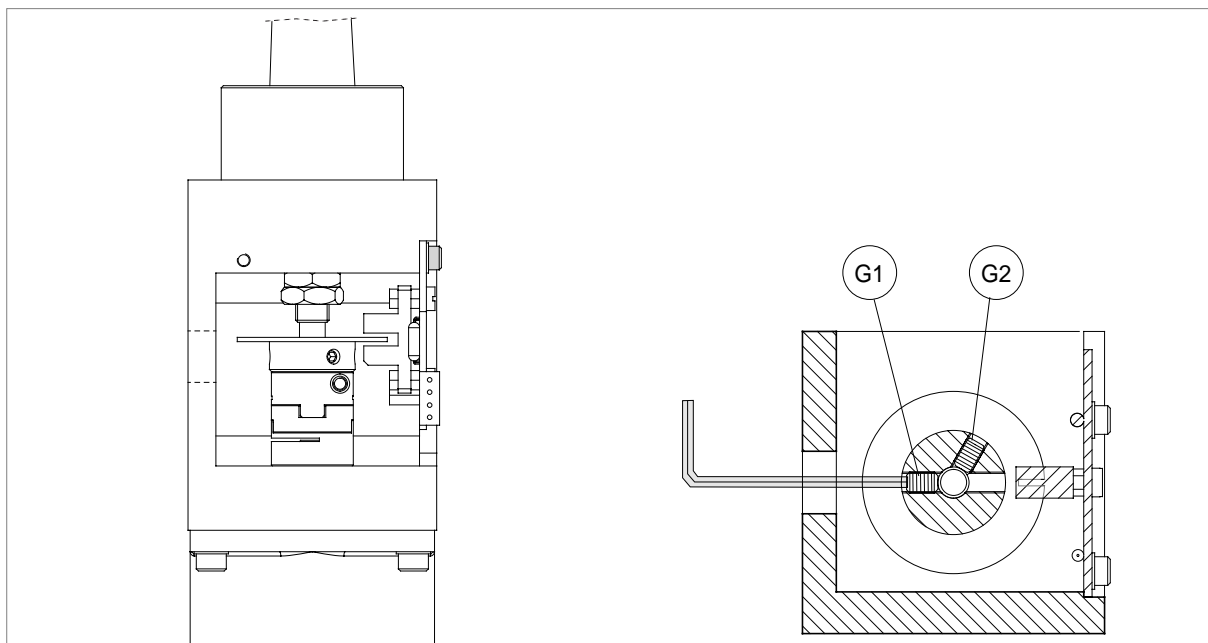

Fig. 115
- 3) loosen the (G1) and (G2) grub screws that secure the X axis photocell disk (fig. 115).
- manually turn the X axis disk (fig. 115, page 88) up until the display's description changes from OFF to ON.
- use the provided allen key to tighten the (G1) grub screw (fig. 115).